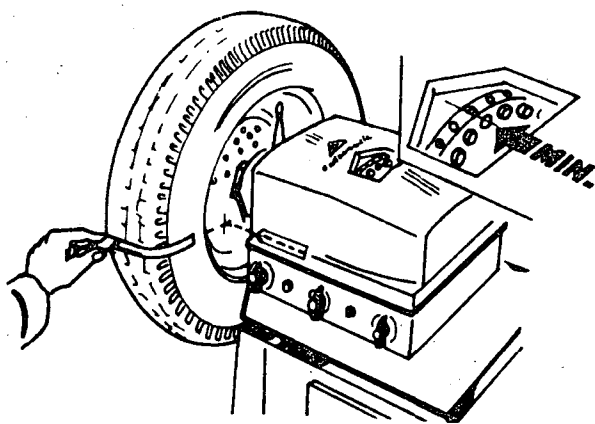

Fig. 4
- b) Stop the machine, take the reading of the counterweight and locate the position where it is going to be fitted (fig. 4).